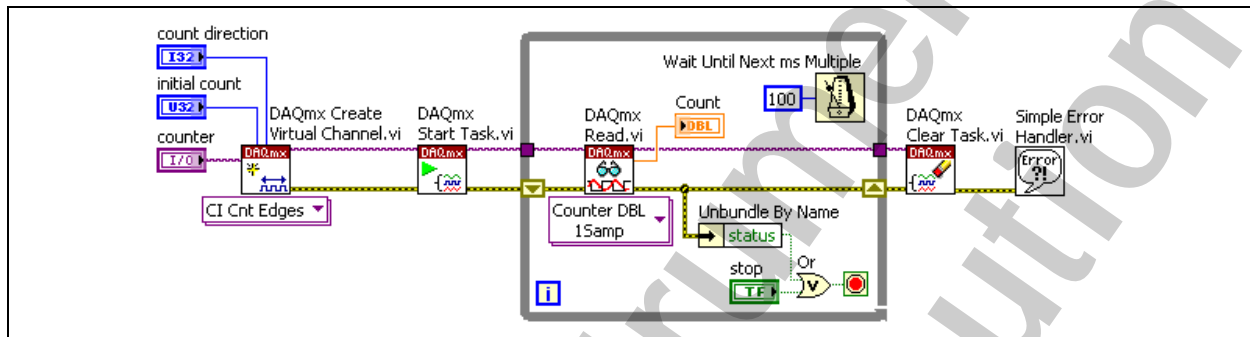

Figure 6-1. Simple Edge Counting VI Block Diagram
2. Modify the block diagram of the Simple Edge Counting VI to record the number of times an edge occurs, as shown in Figure 6-1, using the following items: